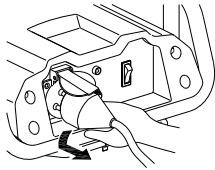

figure 4-1
- (1). Disconnect all load from the AC socket(See figure 4-1).